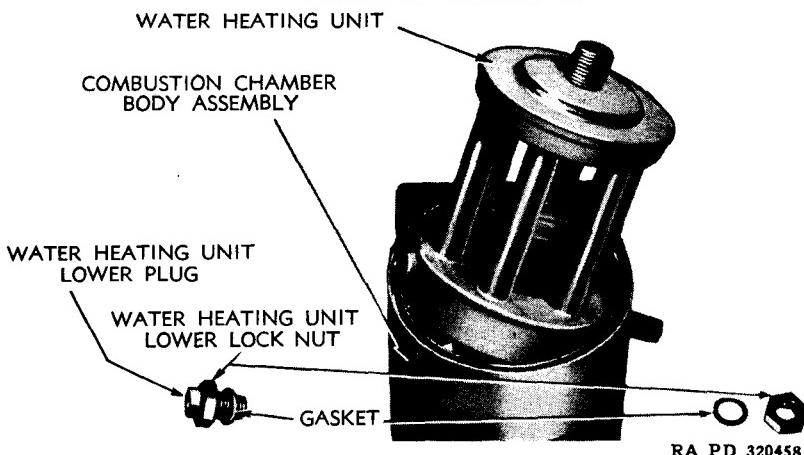

Figure 44 — Water Heater Unit Removal
combustion chamber top (fig. 43). Turn lower nut on water inlet nipple counterclockwise to remove nut and gasket. Loosen lower nut on lower plug at opposite side of water heating unit. Turn lower plug counterclockwise to remove plug, nut, and gasket. Raise side of water heating unit from which lower plug was removed out of combustion chamber body first, as shown in figure 44, and slide unit toward that side to clear nipple on opposite side.
d. Install Water Heating Unit. Place the combustion chamber body on bench with the attaching bracket away from assembler. Start water heating unit as shown in figure 44, and set down into place. Install plug, lock nut, and gasket on left side, and lock nut and gasket on right side. Do not tighten lock nuts; just tighten plug. Install combustion chamber top so that flue connection extends opposite preheater attaching bracket. Install combustion chamber, top plate, and upper nut. Tighten the upper nut first, and then the two lower lock nuts. NOTE: Be sure that packing is in groove at top of combustion chamber before putting combustion chamber top in place.